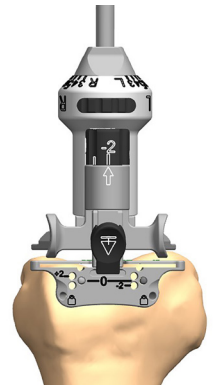

Figure 8
1. With the Adjustable Valgus Bridge dial set to 0mm, using non-headed 65mm pins, pin the distal femoral cutting block to the anterior femur using the holes marked '0'. Once adequate distal femoral resection is noted, a headed or non-headed 65mm pin should be placed in one or both oblique pin holes for additional stability (Figure 8).